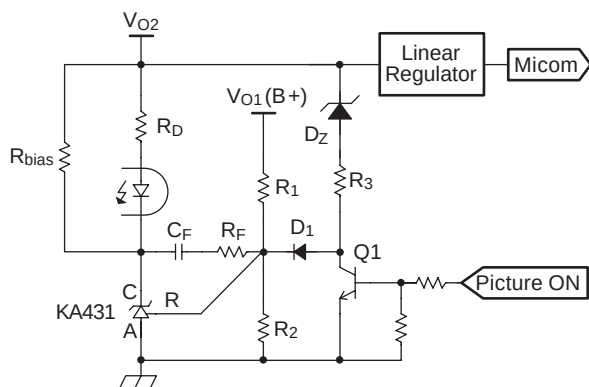

Figure 15. Typical Feedback Circuit to Drop Output Voltage in Standby Mode
6. Burst Operation: In order to minimize the power consumption in the standby mode, the FSCQ-Series employs burst operation. Once FSCQ-Series enters into the burst mode, FSCQ-Series allows all output voltages and effective switching frequency to be reduced. Figure 15 shows the typical feedback circuit for C-TV applications. In normal operation, the picture on signal is applied and the transistor Q_1 is turned on, which decouples R_3 , D_z and $D1$ from the feedback network. Therefore, only V_{o1} is regulated by the feedback circuit in normal operation and determined by R_1 and R_2 as: